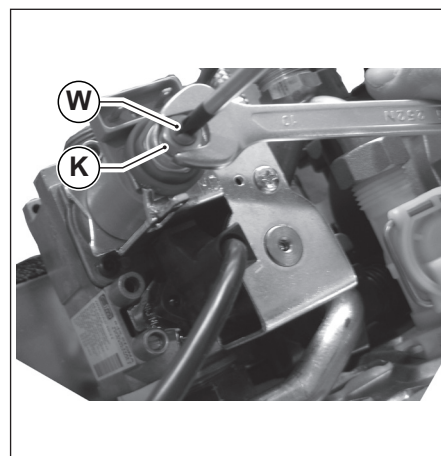

Fig. 26 Gas valve setting
- turn nut **K**CLOCKWISE (see Fig. 26 Gas valve setting) the pressure at nozzles increases, by turning **ANTICLOCKWISE** the pressure at nozzles decreases.
- Adjust pressure as follows: hold nut **K** with a 10 mm wrench, then turn screw **W** **CLOCKWISE** to increase pressure, **COUNTER CLOCKWISE** to decrease it (see Fig. 26 Gas valve setting).